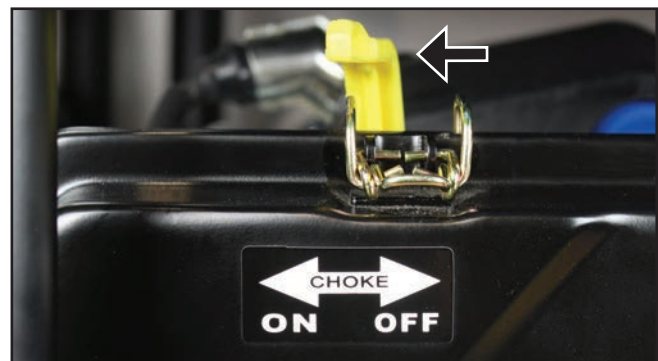

Figure 23 – Choke Lever in the ON Position
4. Move the choke lever to the **ON** position (see *Figure 23*) if starting a cold engine. To restart a warm engine, leave the choke lever in the **OFF** position.